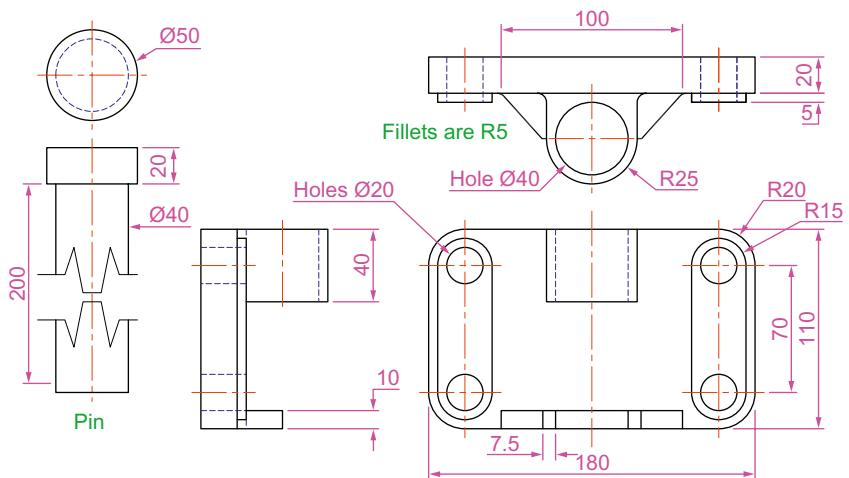

Fig. 18.13 First example – **3D models** – details of sizes and shapes
1. **Front** view. Construct the three extrusions for the back panel and the two extruding panels to the details given in Fig. 18.13.